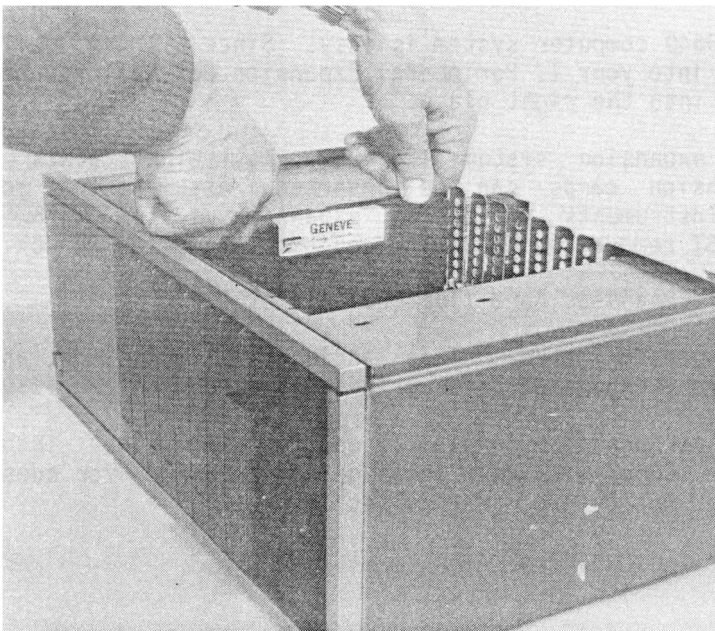

Figure 4 - Inserting the 9640 computer card into the Peripheral Expansion Box
6. Carefully align the 9640 Computer Card in the first slot (marked by a 1) and press the card firmly down into the slot. You should be able to feel the connection being made between the 9640 Computer Card and the PE box. See Figure 4.